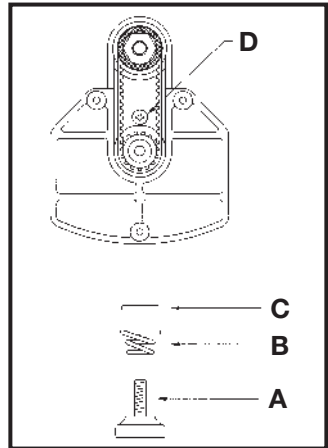

Fig. 9
5. Secure the motor to the base (see Fig. 9), with the thumbscrew (A), spring (B), and washer (C).
6. Locate the #6-32 \times $\frac{3}{8}$ " screw from the hardware package. Use a phillips screwdriver to install this screw (D), as shown in Fig. 9. Tighten securely.